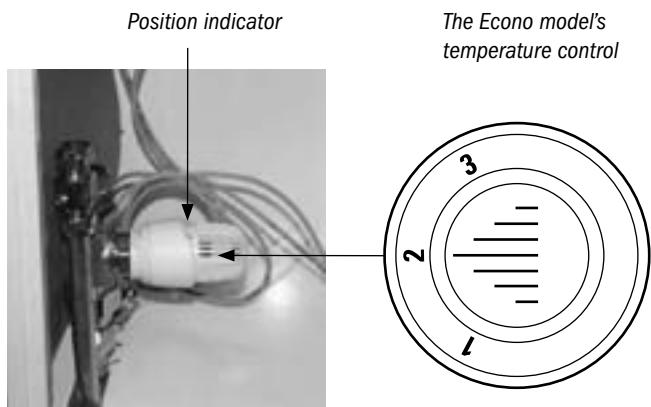

Figure 2.
2. If it is severely cold outdoors, the reheating setting can be adjusted by measuring the temperature by the supply air diffuser situated at the farthest end. We recommend setting the reheating function to approximately 17 °C. Reheating can be adjusted from the control panel if the unit has an electric re heater and in the Econo model by means of a manual control inside the unit (Figure 2).